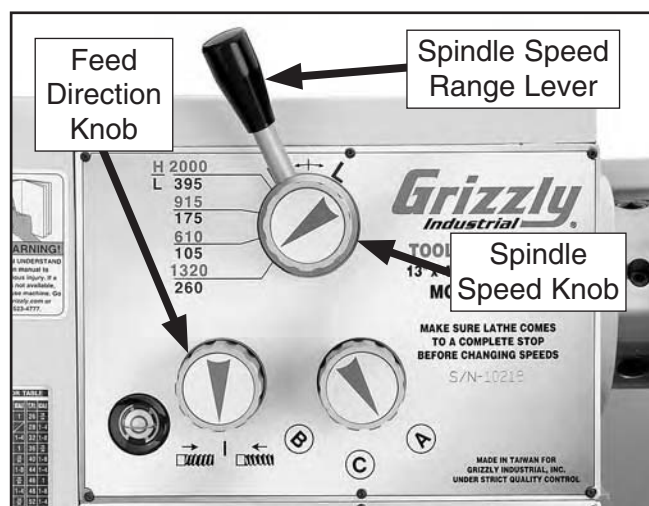

Figure 23. Headstock controls.
2. To ensure the carriage components do not unexpectedly move when the lathe is started, rotate the headstock feed direction knob so that the arrow points to middle (neutral) position (see **Figure 23**).